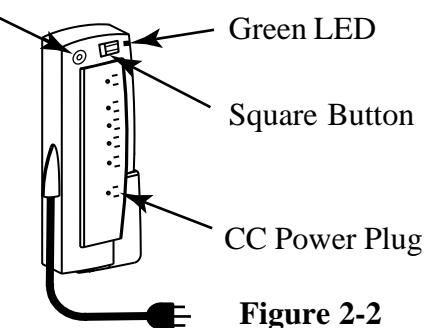

Figure 2-2
UPS ..... See Figure 2-2
2. Unplug the CC from the UPS bottom outlet (see figure 2-2).
- Press the square button (figure 2-2) at the top right of the UPS. The UPS will beep once and a green LED will light to indicate it is on.